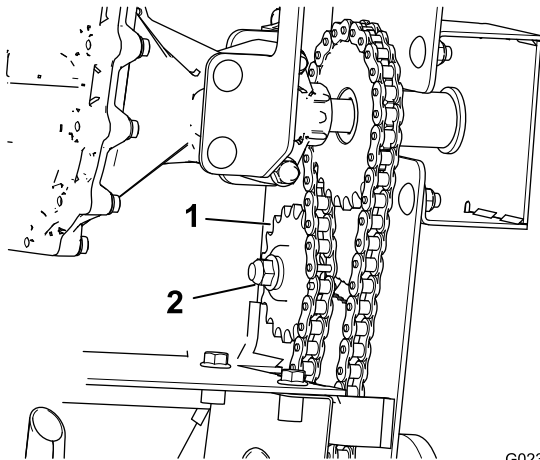

Figure 32
- A. Loosen the nut securing the idler sprocket of the chain you are tensioning (Figure 32).